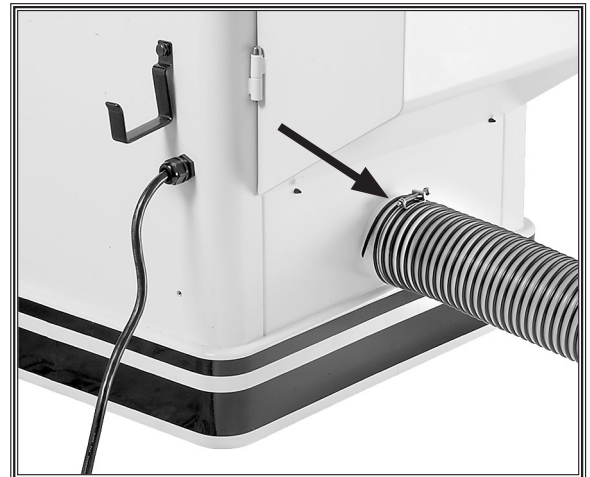

Figure 36. Dust hose attached to dust port.
1. Fit the 4" dust hose over the dust port, as shown in **Figure 36**, and secure in place with a 4" hose clamp.